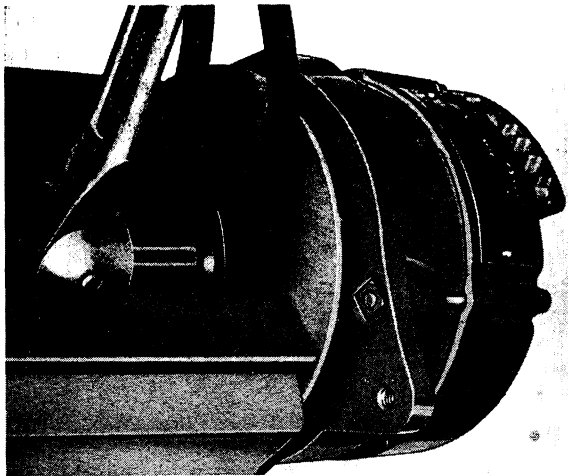

Fig. 3-6. Removing pulley nut
2. Fix the pulley with belt in a vise with soft jaws, see Fig. 3-6.